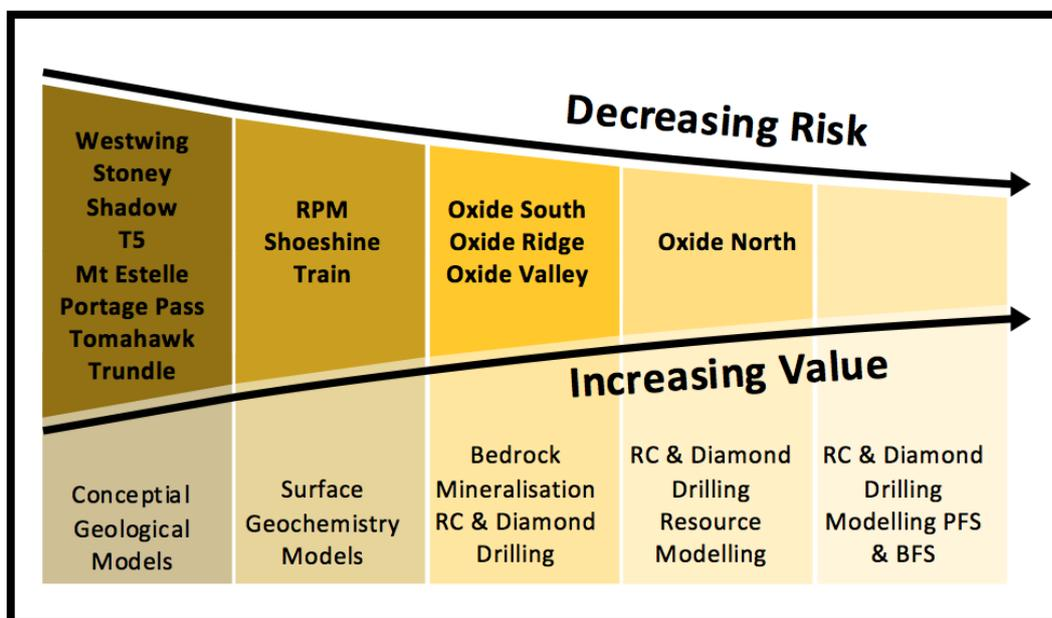

Figure 3: Estelle Project Pipeline
Minerals explorer and developer **Nova Minerals Limited (ASX:NVA FSE:QM3) (‘Nova’ or ‘the Company’)** is pleased to announce the discovery of high grade gold material for a “Starter Pit” scenario within Block B of the Oxide Korbrel deposit from phase 1 resource drilling (**Table 1**). These holes were drilled as part of a Reverse Circulation (RC) drill program completed during the 2019 field season. The Oxide Korbrel deposit is one of fifteen known gold occurrences located on the Estelle Gold Project to follow up (**Figure 3**).